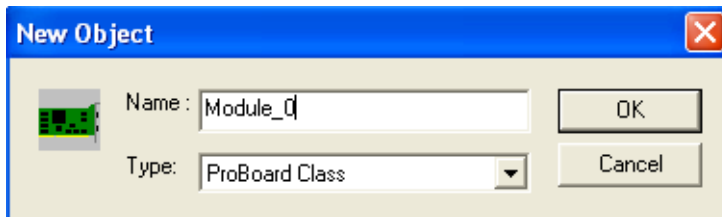

Figure 31. is Pro Multiserver New Object
3. A pop-up message similar to the one shown in Figure 31 is displayed.